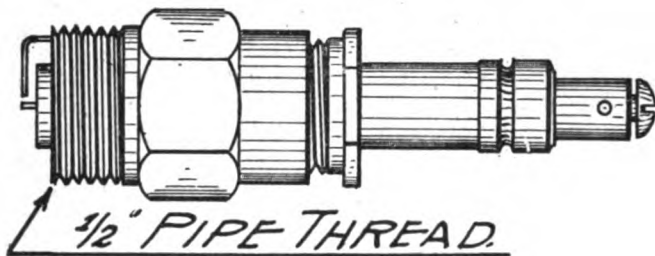

Fig. 41.
**THE STANDARD PLUG** used in America is the  $\frac{1}{2}$  inch regular pipe size. Fig. 41 being an exact reproduction of the size.